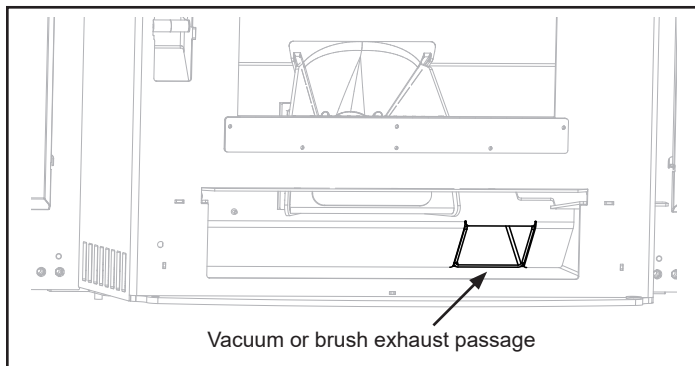

Figure 2.5
- f. Guide the vacuum hose upward into the exhaust passage in the right rear corner of the firebox, Figure 2.5.